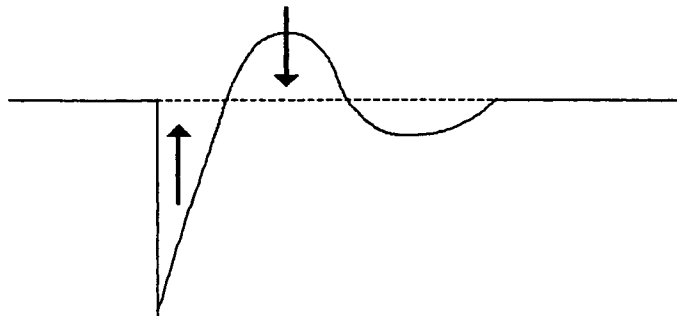

Figure 17: Adjustment principle
- Adjust the difference signal within specification, with potentiometers 'TC1' and 'BW1' on the X-master Copley-274 Controller, see figure 17 for the adjustment principle.